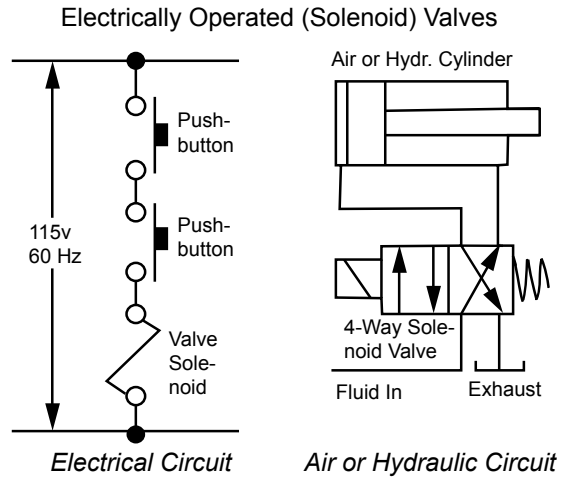

Figure 4. Pushbutton Circuit for Solenoid Valves.
**Figure 4.** On electrically operated machines using solenoid valves, it is relatively simple to wire two pushbuttons in series. The operator must hold both buttons down before the valve solenoid can be energized. In this circuit, if the operator should release either button while the cylinder is traveling forward, the cylinder will immediately reverse.